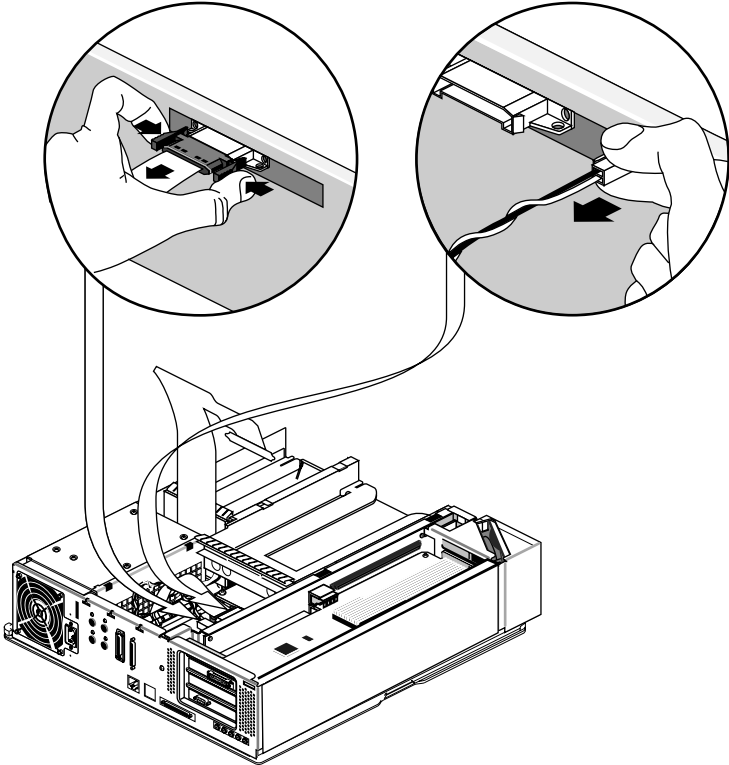

Figure 3-9 Disconnecting the Midplane Power Cables
- Pinch together the corrugated edges on the ribbon cable connector, and pull gently to disconnect it from the midplane. See Figure 3-9.
- Pull gently on the twisted-pair connector to disconnect it from the midplane. See Figure 3-9.